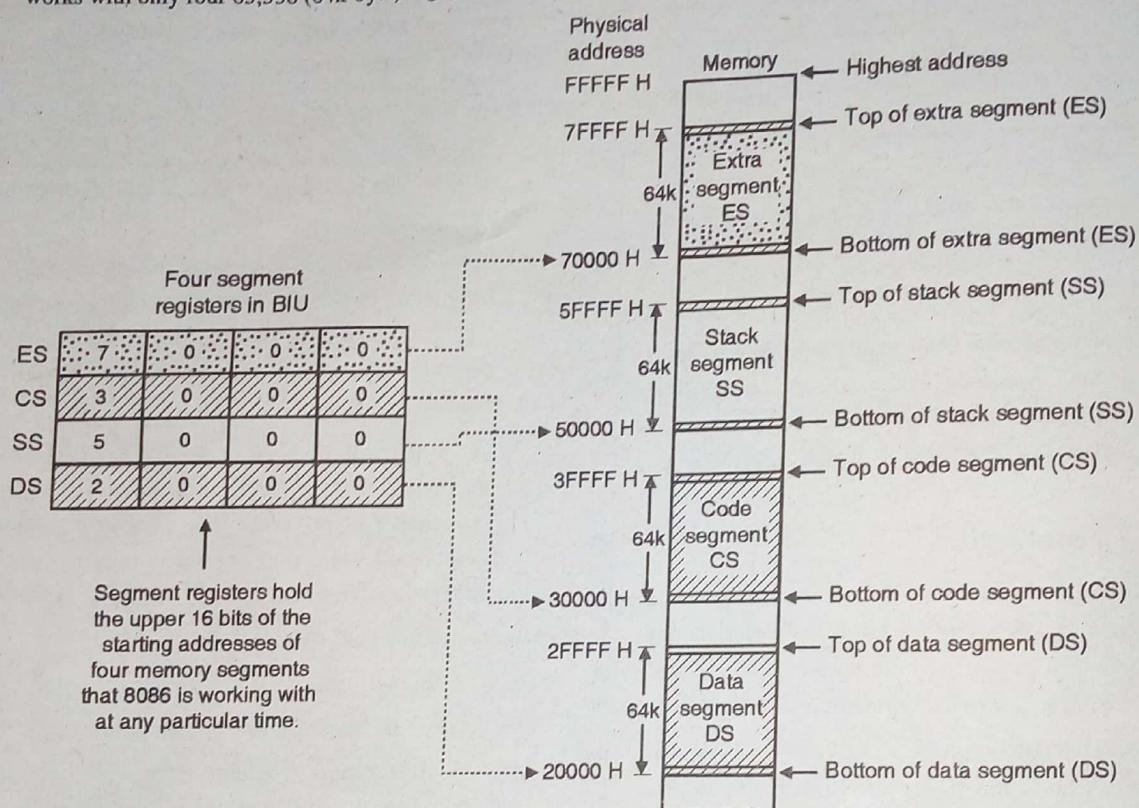

Fig. 2.3 : One way of positioning four 64 k byte segments within the 1 M byte memory space of an 8086
These starting addresses will always be changing. They are not fix. Fig. 2.3 shows one of the possible ways to position the four 64 k byte segments within the 1-M byte memory space of 8086. There is no restriction on the locations of these segments in the memory. These segments can be separate from each other as shown in Fig. 2.3 or they can overlap. The starting address or base address of the data segment is 20000H. The upper 16-bits of this i.e. 2000 are loaded into the Data Segment register (DS). Similarly upper 16 bits of the starting addresses of the other segments are stored into the corresponding segment registers.